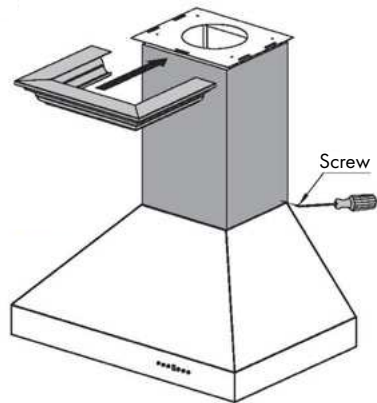

Figure 9
- Mount the main body of the hood to the two screws and screw into place. *Figure 9*